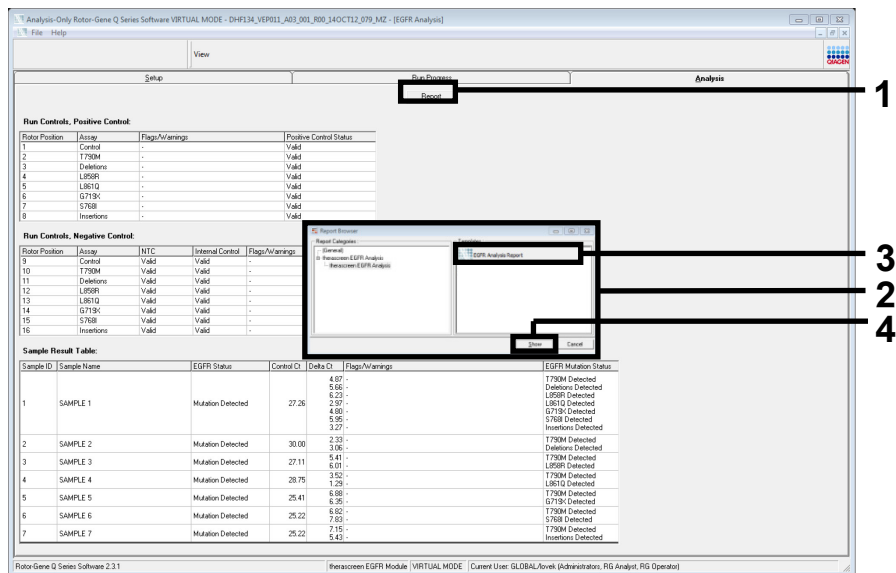

Figure 18. Selecting the “EGFR CE Analysis Report” (1 = “Report” button; 2 = “Report Browser” panel; 3 = “EGFR CE Analysis Report” button; 4 = “Show” button).
20. Assay results are reported as follows (Figure 18).
21. Click “Report” to produce a report file. The “Report Browser” window opens. Select “EGFR CE Analysis Report” under “Templates,” and then click “Show” (Figure 18).